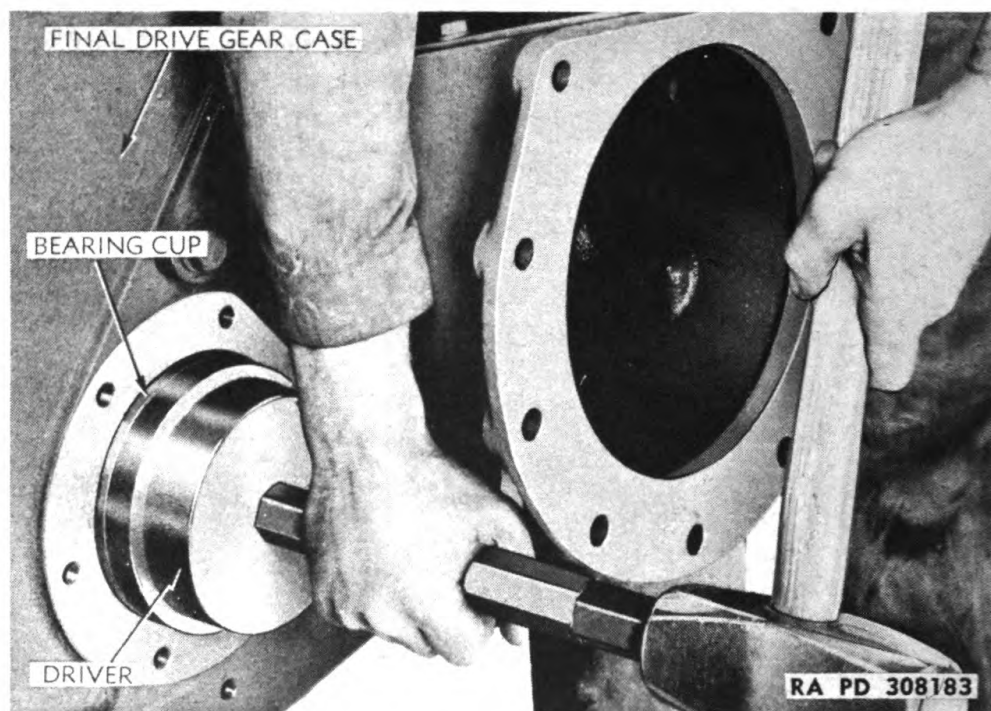

Figure 81 — Installing Sprocket Shaft Outer Bearing Cup, Using Replacer (41-R-2374-875)
c. Install Bearing Cups in Gear Case. Drive or press inner pinion bearing cup into inner side of gear case using replacer (41-R-2374-670), and install both sprocket shaft bearing cups in gear case in same manner using replacer (41-R-2374-875). Use above replacers or arbors as shown in figure 81 to install these cups. Leave sprocket shaft bearing cups flush with outer sides of case. The inner pinion bearing cup must be pressed in approximately one-half inch farther.